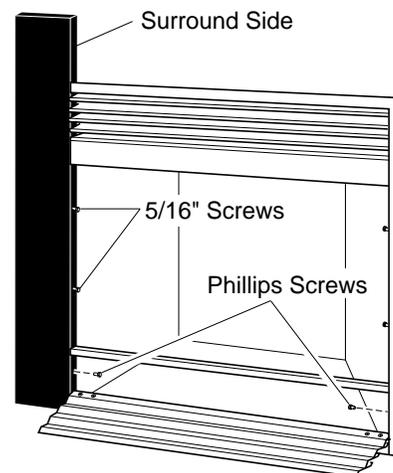

Figure 6 - Attaching Left Surround Side Panel
3. Align holes in left surround side panel with screen mounting screw holes. Replace 5/16" screen mounting shoulder screws removed in step 1 (see Figure 6). Do not tighten. Install Phillips screws in bottom (see Figure 6). Repeat for right side.